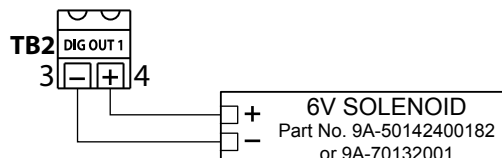

Figure 2.13—Solenoid wiring diagram for use with 6V solenoid supplied with controller
5. Connect the solenoid wires to the TB2 (DIG OUT 1) or TB1 (DIG OUT 2) terminals. If using a solenoid with a voltage rating greater than 6V, the signal must be transmitted through an I.S.-rated safety barrier installed in the safe area. See Figures 2.13 through 2.17, page 15 through page 17.
Digital Output 1 is a transistor that can drive the integrated 6V solenoid directly without external power (Figure 2.13). Alternatively, when a higher voltage solenoid is required, Digital Output 1 can also be used to drive a relay which in turn drives the solenoid through an I.S.-rated barrier (Figure 2.14). The solenoid, relay, solenoid driver, and external power supply must have equivalent voltage ratings.